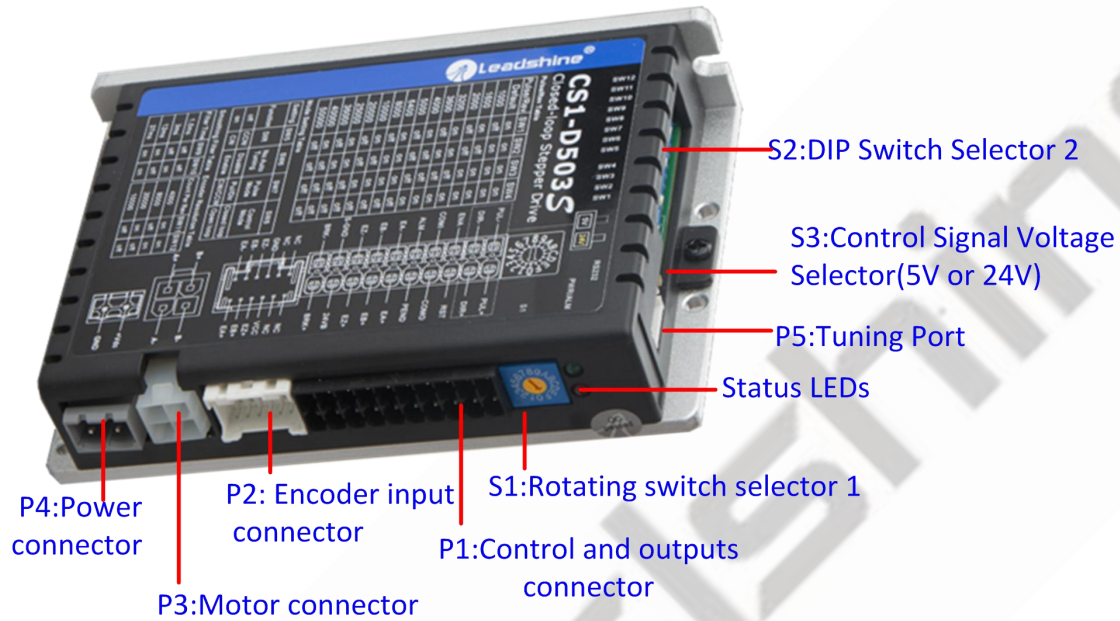

Figure 2: CS1-D503S connectors
A CS1-D503S closed loop stepper drive has 5 connection blocks from P1 to P5 (see figure 2).
The P1 connector in Figure 2 contains connections for control signals and a configurable digital output.
| PUL+ (CW+) | I | Pulse and Direction Connection: (1) Optically isolated, high level 3.5-5V or 24V, low voltage 0-0.5V (2) Maximum 500 KHz input frequency (3) The width of PUL signal is at least 1.0 μ s, duty cycle is recommended 50% (4) Single pulse (step & direction) or double pulse (CW/CCW) is set by DIP Switch SW7 (5) DIR signal requires advance PUL signal minimum 2 μ s in single pulse mode (6) The factory setting of control signal voltage is 24V, must need to set S3 (figure 2) if it is 5V |
The P2 connector in Figure 2 is for encoder signal connection. Refer to the following table for details.